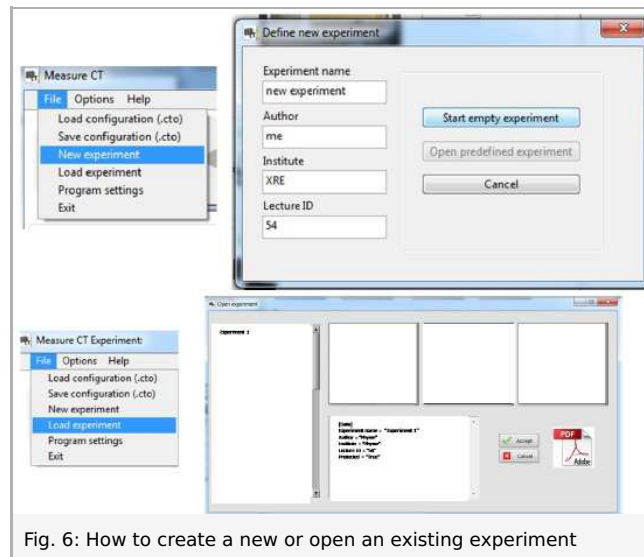

Fig. 6: How to create a new or open an existing experiment
- Start a new experiment, give it a unique name and fill in your details (Fig. 6). Alternatively it is also possible to load this experiment with pre-recorded images and open this manual. The correct configuration will be loaded automatically as well